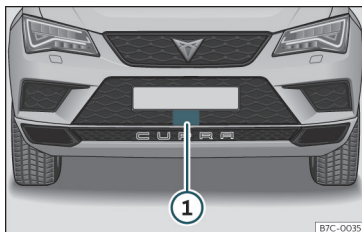

Fig. 207 On the front bumper: radar sensor.
A radar sensor is installed on the front bumper to determine the traffic situation >>> Fig. 207 ①.